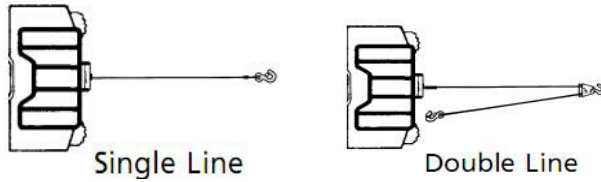

Figure 2
1. Maximum working load capacity is on the rope layer closest to the drum. **DO NOT OVERLOAD. DO NOT ATTEMPT PROLONGED PULLS AT HEAVY LOADS.** Overloads can damage the winch and/or the rope and create unsafe operating conditions. **FOR LOADS OVER 1/2 OF THE RATED CAPACITY WE RECOMMEND THE USE OF THE OPTIONAL PULLEY BLOCK TO DOUBLE LINE THE ROPE (Figure2).** This reduces the load on the winch and the strain on the rope by approximately 50%. Attach the hook to the load bearing part. **The vehicle engine should be running during winch operation .** If considerable winching is performed with the engine off, the battery may be too weak to restart the engine.